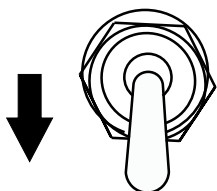

Figure 26. Idle Control Switch (OFF)
2. Place idle control switch (Figure 26) in the **OFF** position.